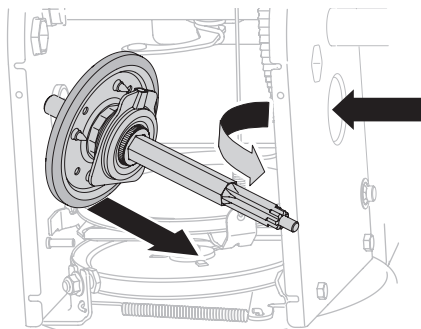

Figure 88
- Carefully position hex shaft downward and to left before carefully sliding friction wheel assembly off shaft (Figure 88).